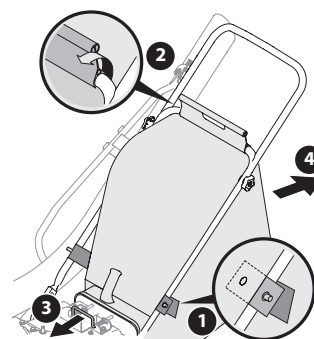

Figure 9
2. Unsnap bag clip from the top of lower handle. See Figure 9.